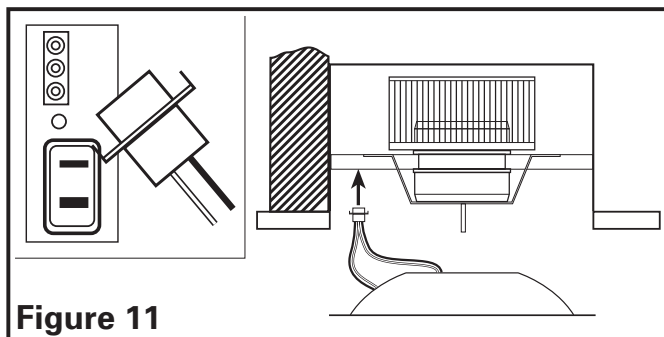

Figure 11
2. Plug cord from lamp holders into the appropriate receptacle (**Figure 11**).